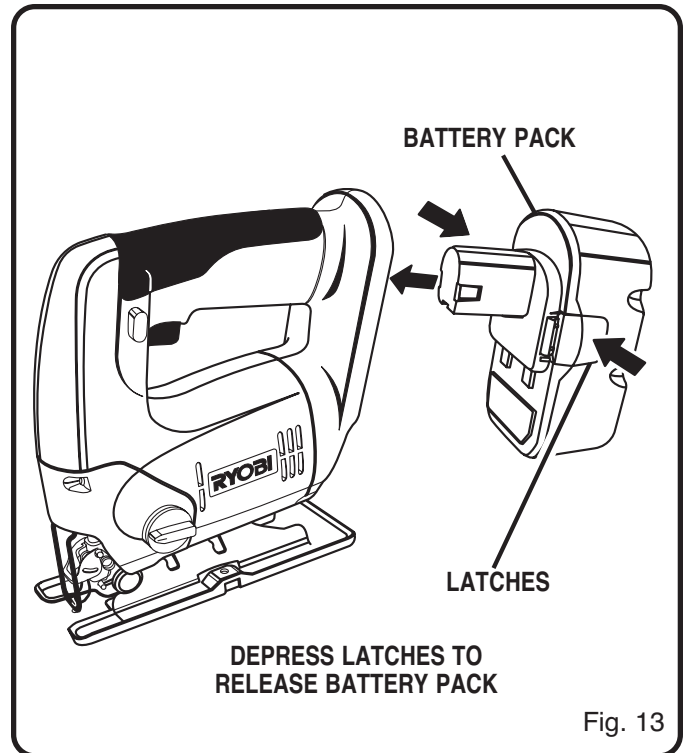

Fig. 13
- Remove battery pack. See Figure 13.
See Figure 13.